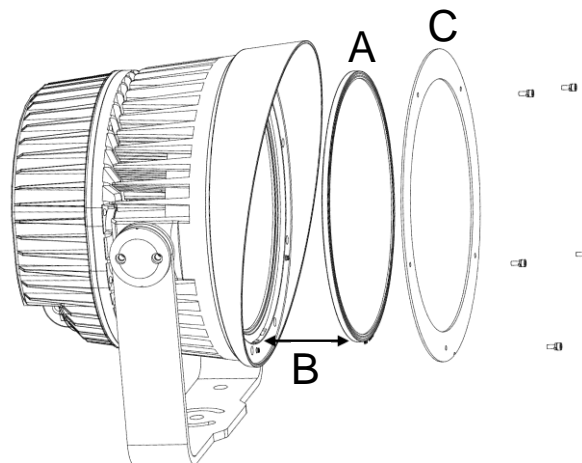

Figure 4. Diffuser installation
2. See Figure 4. Position the diffuser A over the front of the fixture, making sure that the marking 'this side out' close to the edge of the diffuser faces outwards, towards the front of the fixture.
If you install a louver over a diffuser lens, you do not need to use the trim ring shown at C in Figure 4 on page 12 because the louver will hold the diffuser securely.